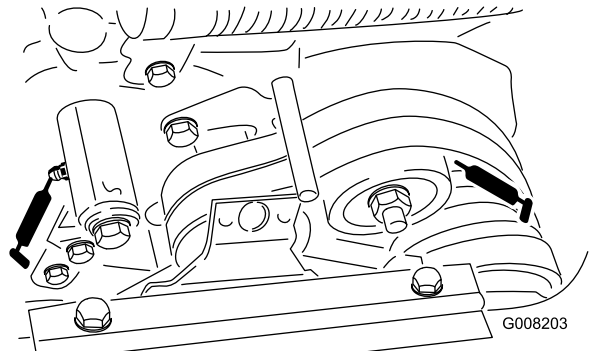

Figure 17
- 2 on the belt idler pivots (Figure 17).